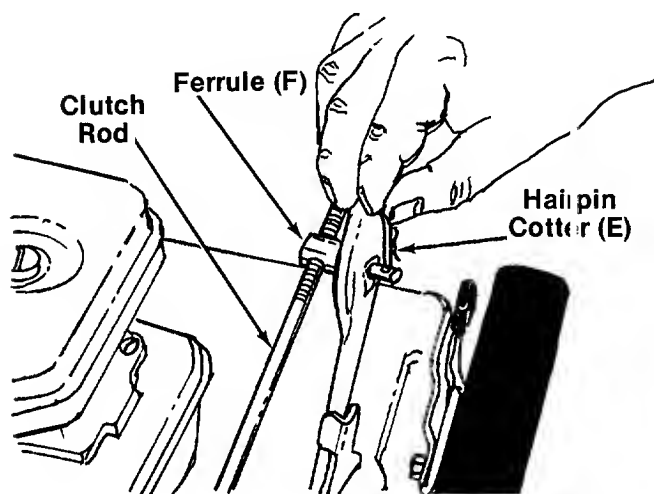

FIGURE 8.
15. Thread the clutch rod into the ferrule (F) until the ferrule lines up with the hole in the lower handle. Secure ferrule in handle with cotter pin (E) as shown in figure 8. Check for 1/8" clearance between drive pinion and front wheels. See **clutch rod adjustment** on page 10.
16. Insert plastic plug (H) into hole in the top rear of the deck by slipping one end of plug into hole, then pressing down on the other end of plug.
1. Remove the cotter pin. See figure 8.